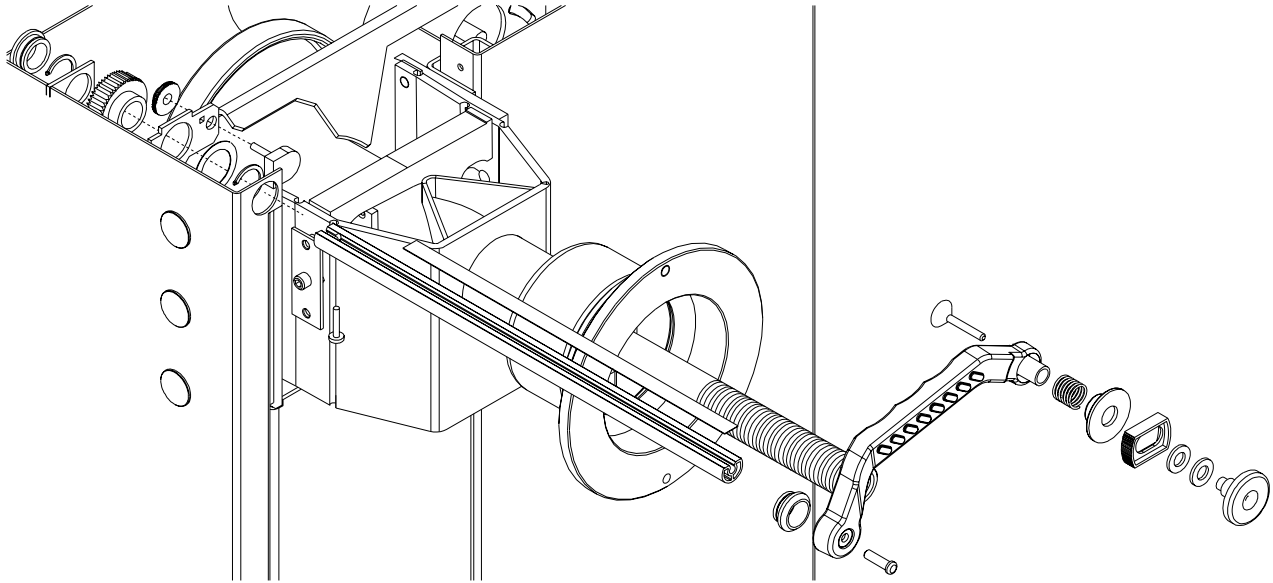

Figure 3-37
- Remove the 10mm nut holding the SAPE wheel to the mounting bracket and slide the cog wheel off of the potentiometer shaft. (Figure 3-37)
- Install cog wheel onto potentiometer shaft and hand tighten 10mm nut. (Figure 3-37)